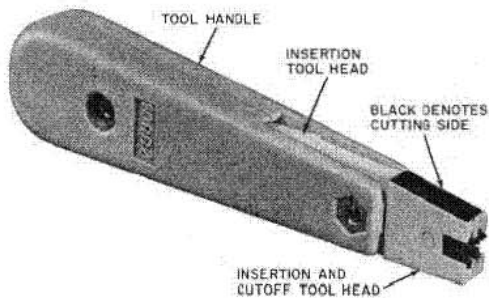

Fig. 12—788D-Type Tool, Single-Pair Insertion/Cutoff
**2.17** The single pair insertion tool ◆(788D4)◆ is supplied as a combination of the handle and insertion head. The reversible ends of the head provide either insertion/cutoff or insertion only (Fig. 12) of a single cable pair.